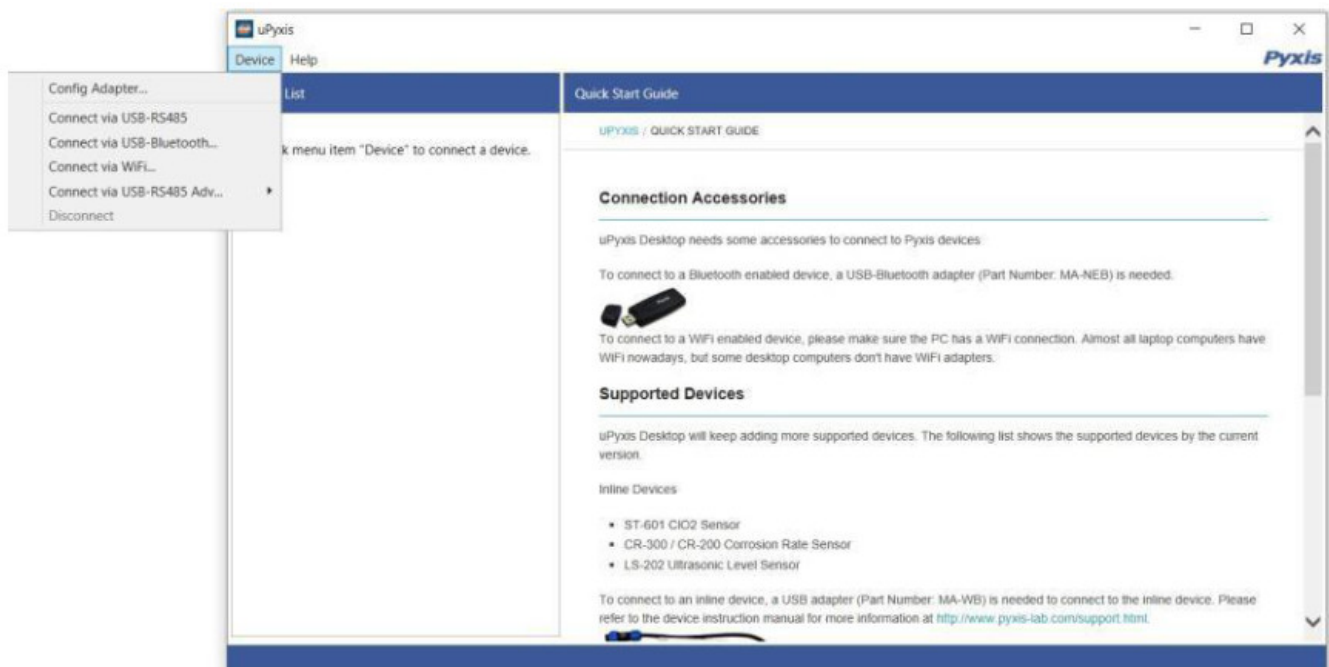

Figure 10.
3. On uPyxis® Desktop App, click Device → Connect via USB-Bluetooth (Figure 10).
4. If the connection is successful, the ST-774 and its Serial Number (SN) will be displayed in the left pane of the uPyxis® window.